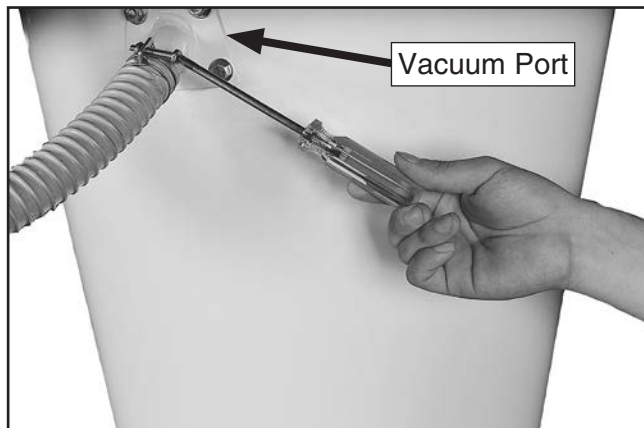

Figure 28. Cyclone vacuum tube and hose attachment.
18. Apply the 3 x 6 x 300mm foam tape to the mating surface of the cyclone vacuum port, then attach it to the cyclone funnel with (4) $\frac{5}{16}$ "-18 x $\frac{3}{4}$ " hex bolts and (4) $\frac{5}{16}$ " flat washers (see **Figure 28**).